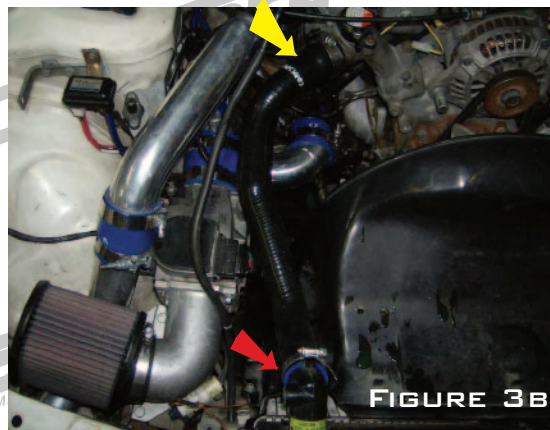

FIGURE 3B
B) REINSTALL THE UPPER SILICONE RADIATOR HOSE AND TIGHTEN WITH THE UPPER T-BOLT CLAMP (38-43MM) SHOWN BY THE YELLOW ARROW IN FIGURE 3B. TIGHTEN THE 47-55MM T-BOLT CLAMP SHOWN BY THE RED ARROW IN FIGURE 3B.